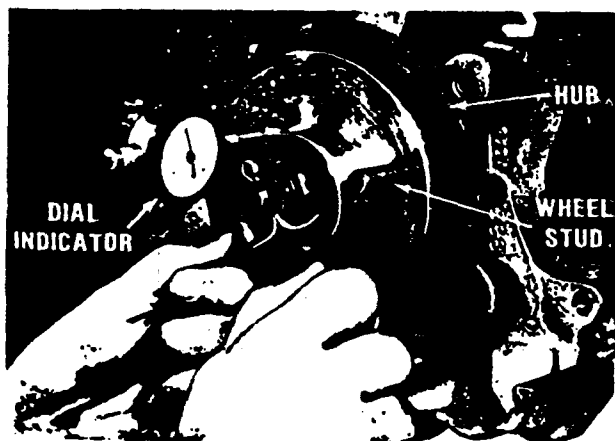

Fig. 25 — Measuring hub runout.
8. Install the dial indicator onto the steering knuckle, making sure the stem is contacting the hub inside of the stud circle (Fig. 25).